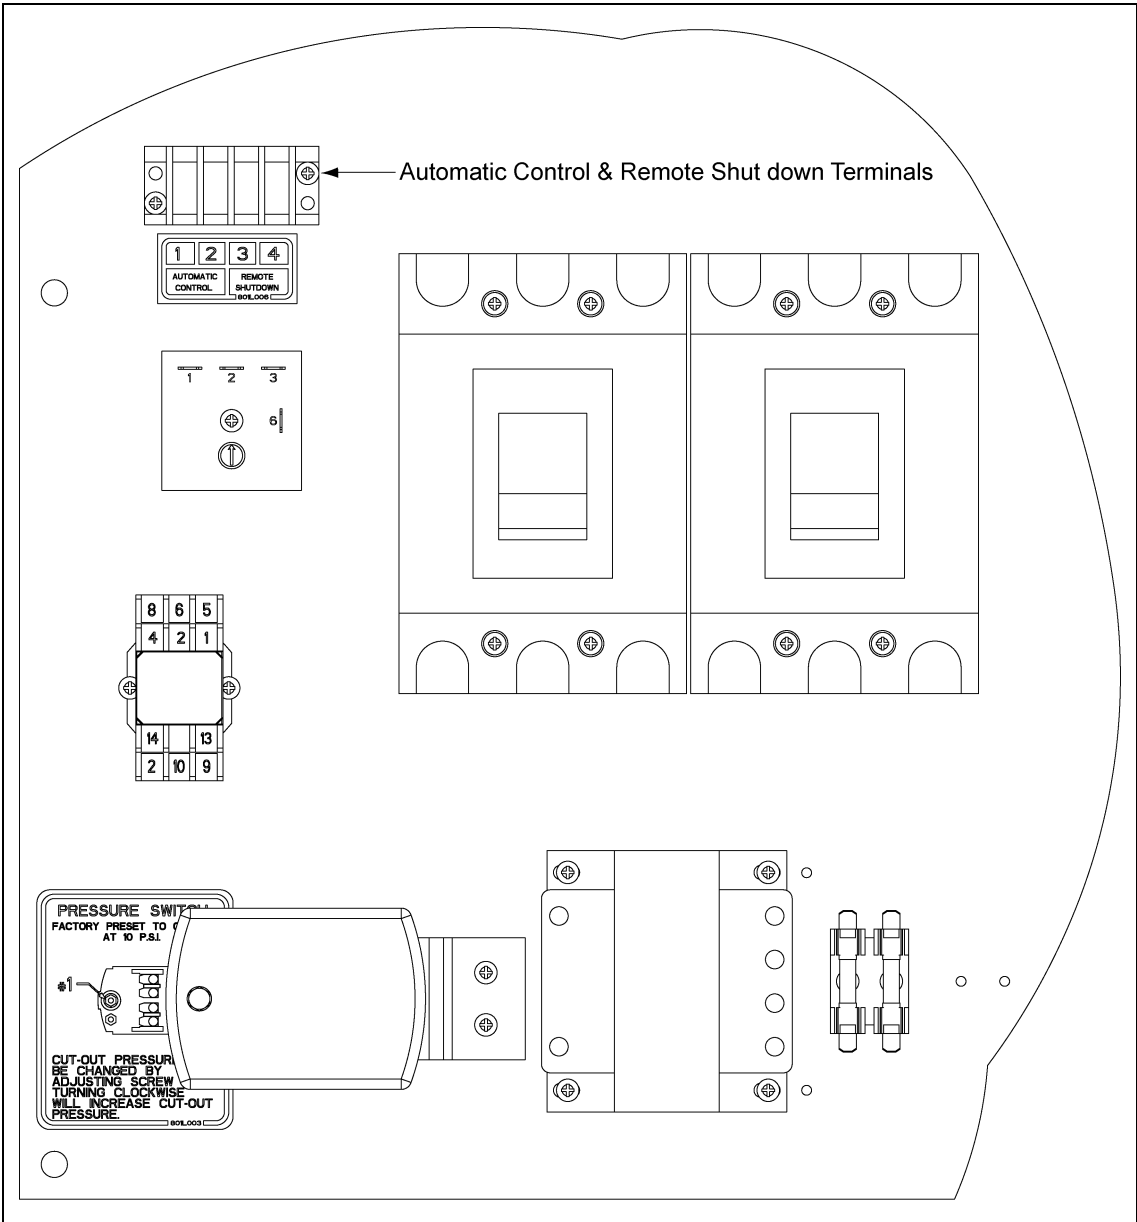

Figure 4S Auto Remote
8. **5 Amp Fuse:** A five (5) Amp fuse protects the electrical components in the control box.
10. **Automatic Control Terminals:** When the air system is ready to run (i.e., the control ready light is on), the system can then be started and run by completing the circuit between terminals one (1) and two (2). The blower, airlock or auxiliary equipment will not run in the automatic mode unless terminals one (1) and two (2) are connected. For example, a closing set of contacts in a dryer control box would complete the circuit between terminals one (1) and two (2) and automatically start the air system. (See Figure 4S).